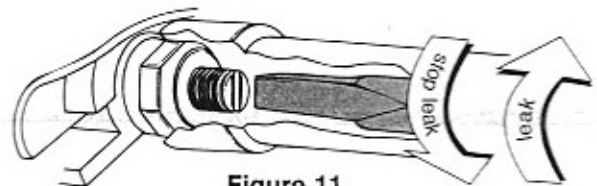

Figure 11
NOTE: If the second-stage leaks when the regulator is pressurized, do not continue with the testing procedures until the leak is stopped. To stop the leak, place the 1/4-inch nut driver portion of the Lever Height Adjustment Tool (LHAT) over the locknut (item 7) by passing it through the access port hole of the box bottom (item 12). Next, insert the screwdriver portion of the LHAT down through the center of the nut driver. Insert the blade of the screwdriver into the slot on the end of the retainer (item 2). See Figure 11. While holding the screwdriver and retainer steady, turn the locknut (item 7) counterclockwise just until the leak stops. Remove the LHAT from the box bottom.
5. With the LHAT in place, turn the nut driver clockwise until you detect a slight leak. Then, turn the nut driver counterclockwise until the leak stops (figure 11). Remove the LHAT from the regulator.